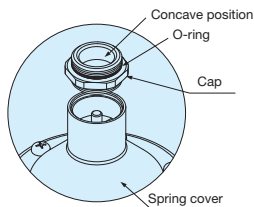

Fig. 1
2. Remove the cap and turn it out (make concave portion upward), and screw it firmly onto the spring cover. (Fig. 1)